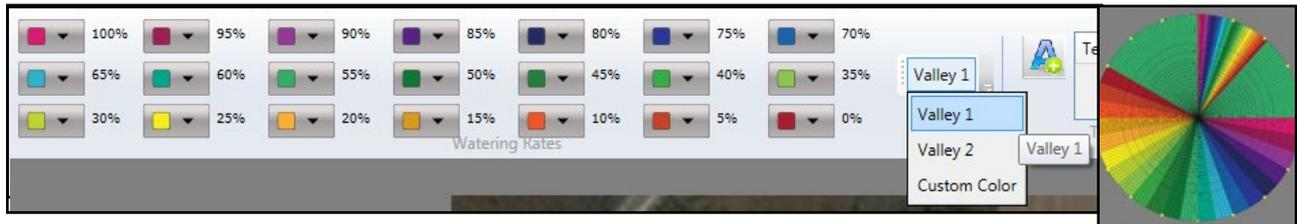

Figure 17-1
The Watering Rate buttons are used with any of the Drawing Tools buttons to describe the amount of water to be applied to sectors. The color-coded buttons range in 5 percent increments from 0 to 100 percent. This is the percent of application depth. See Figure 17-1. For example: If the application rate (base rate) is 1 in (0.0254 mm) and the water rate is 50% the applied rate would be 1/2 in (0.0127 mm) or $AR \times WR = \text{Applied Rate}$.
3. Choose the Watering Rate Color pallet. As you may have noticed in Figures 17-1, 17-2 and 17-3 there is an open drop down menu that can be used to select 3 possible Watering Rate Color pallets.